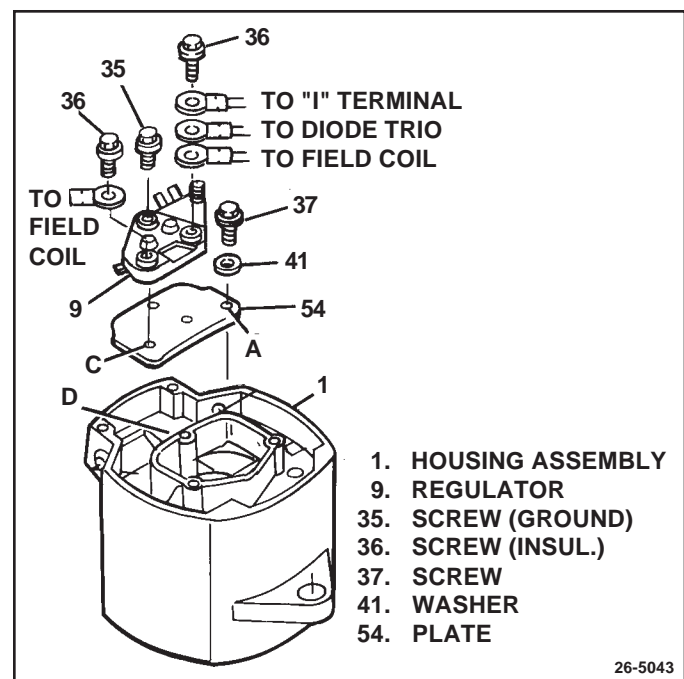

Figure 42. Installing Regulator
- Coat regulator mounting area in rectifier end housing (1) and both sides of regulator mounting plate (54) with silicone dielectric grease (1974984). Place plate into rectifier end housing, aligning holes with those in the housing. If unit uses a regulator mounting plate attachment screw (37) (1/2" long), install screw/washer assembly (41) to hole A. (See Fig. 42) Finger tighten.
- Coat back (metal side) of regulator (9) with silicone dielectric grease (1974984). Place regulator onto mounting plate, aligning mounting holes with those in rectifier end housing. Install regulator grounding attachment screw/washer assembly (35) (1" long) through regulator and mounting plate into housing hole D. Finger tighten.
- Place "I" terminal lead (if used), blue lead from diode trio, and long field coil lead over hole B (See Fig. 42) and insert insulated regulator attachment screw (35) (1" long). Place short field coil lead over hole C and insert insulated regulator attachment screw (36) (1" long). Finger tighten both screws.